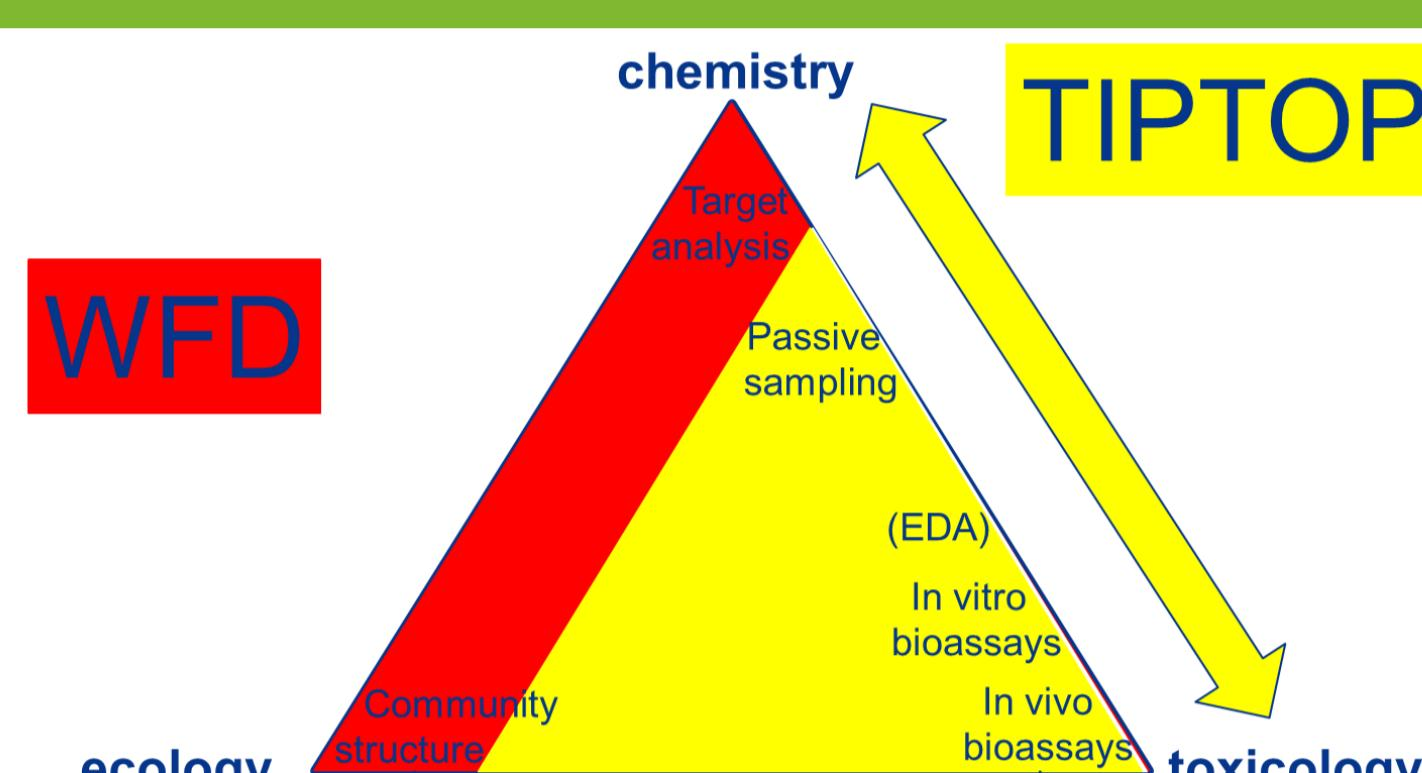

Figure 1: TRIAD approach for chemical water quality assessment in relation to the Water Framework Directive (WFD) and the TIPTOP strategy
- than risk assessment based on individually, target-analyzed compounds (Fig 1).